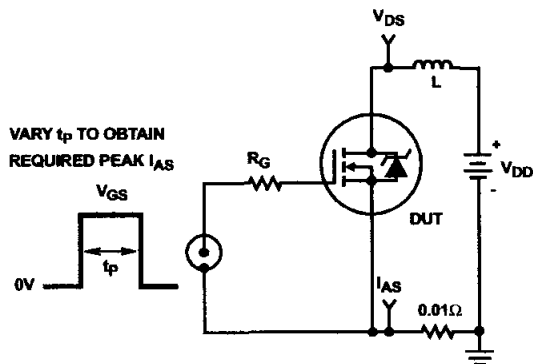

FIGURE 15. UNCLAMPED ENERGY TEST CIRCUIT
- 4. $V_{DD} = 25\text{V}$, starting $T_J = 25^{\circ}\text{C}$, $L = 440\mu\text{H}$, $R_G = 25\Omega$, peak $I_{AS} = 28\text{A}$. (Figures 15, 16).